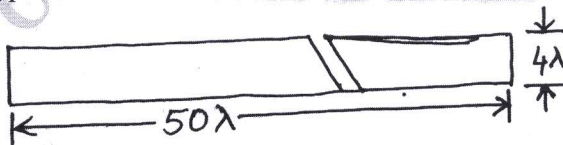

Fig Q4(b)
- b. Calculate the area capacitance of the layer in the Fig Q4(b) for the following criteria.